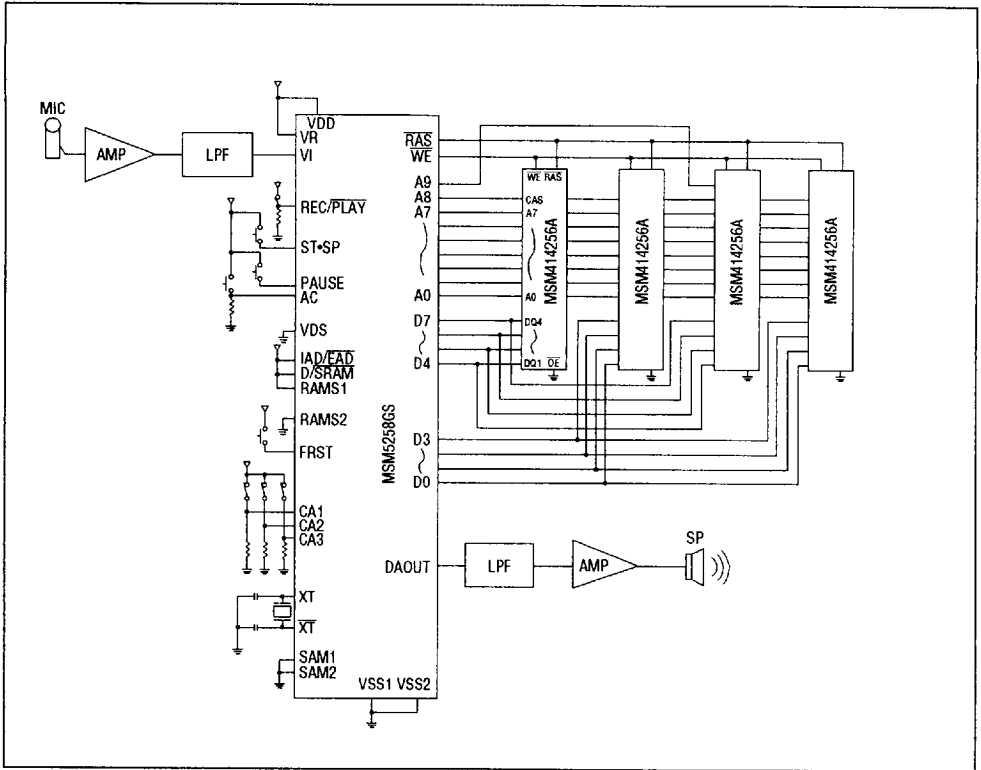

Figure 27 Application Note for 1M-bit DRAM
- Figure 27 shows an example of interface with 1M DRAM.